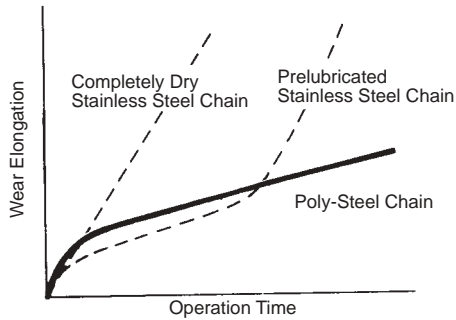

Figure 1.15 Stainless Steel Chain Versus Poly-Steel Chain
- (1) Inner links are made of a self-lubricating material; therefore, the chains do not require lubrication. The wear resistance of these chains is higher than that of Stainless Steel Roller Chains without lubrication (Figure 1.15).
- (2) Because the inner link is made of plastic, the noise caused by engagement with the sprocket is lower (about 5 dB lower than Standard Roller Chain).
- (3) PC Chain is very light; about half that of Standard Roller Chains.
- (4) There are five sizes for this series: Numbers 25, 35, 40, 50, and 60. The maximum allowable tension varies from 0.08 to 0.88 kN.